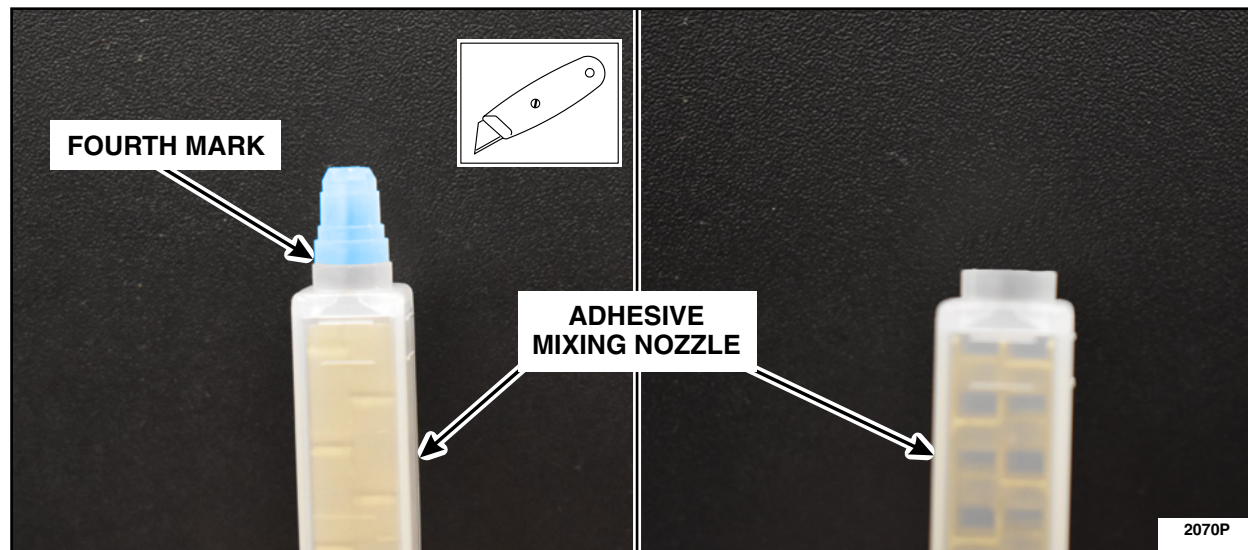

FIGURE 17
3. Cut off the tip of the adhesive mixing nozzle at the fourth mark. See Figure 17.